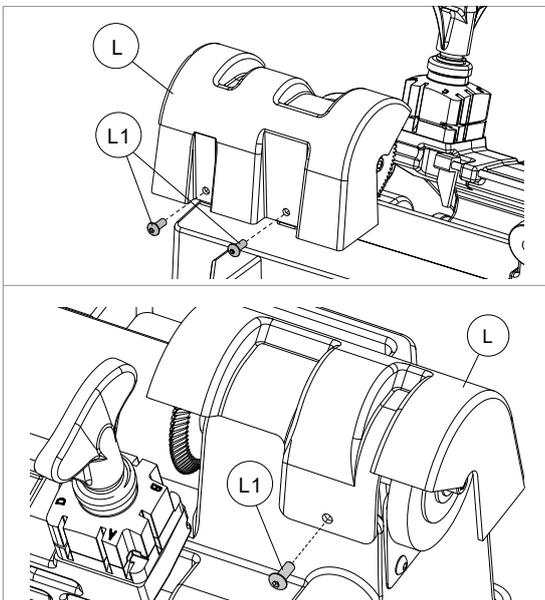

Fig. 49
**⚠ ATTENTION:** turn off the machine with motor switch (T), turn off main power switch (N), close the switch protection cover (N1) and check that it is NOT connected to the battery.
- 1) Remove the cover (L) by loosening the 3 screws (L1) (Fig. 49).